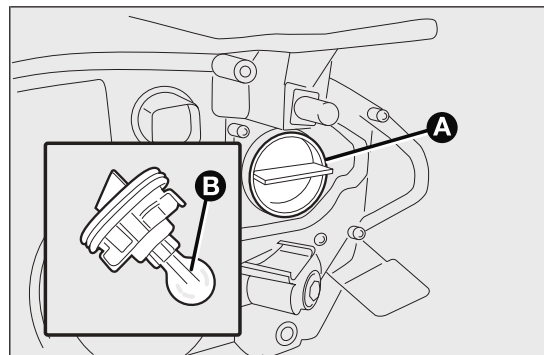

fig. 143
- remove the bulb B fig. 143 and replace it;